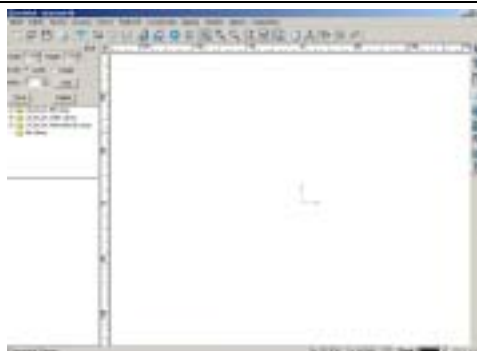

Fig. 4-30
2. The Symbol Library dialog is displayed on the left of the drawing window. (Fig. 4-30)